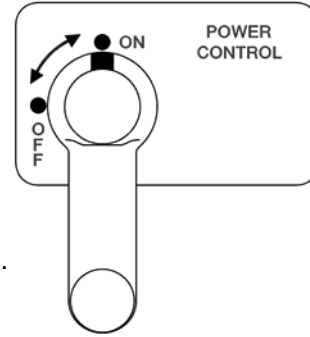

Figure 3-3
3. Turn ON power to the SteamChef by turning the Drain Valve Lever clockwise (down) to close the drain. See Figure 3-3.